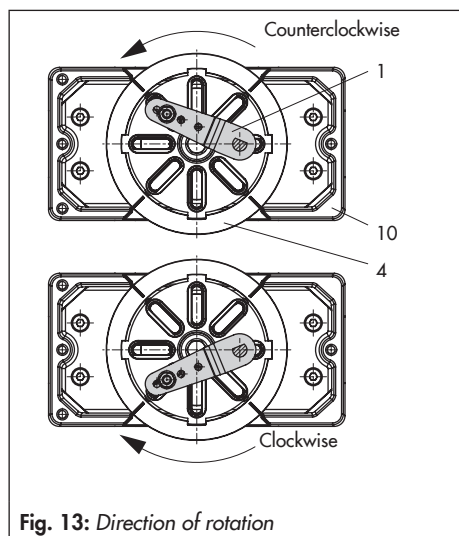

Fig. 13: Direction of rotation
1. Mount the housing (10) onto the rotary actuator. In case of VDI/VDE attachment,
- place spacers (11) underneath, if necessary.
- For **SAMSON Type 3278 and VETEC S160 Rotary Actuators**, screw the adapter (5) onto the free end of the shaft or place adapter (5.1) onto the shaft of the **VETEC R Actuator**. Place adapter (3) onto **Type 3278, VETEC S160 and VETEC R Actuators**. For **VDI/VDE version**, this step depends on the actuator size.
- Fasten coupling (4) on the slotted actuator shaft or adapter (3) using screw (4.1) and disk spring (4.2).
- Unscrew the standard follower pin (2) from the positioner's M lever (1). Attach the follower pin (\varnothing 5 mm) included in the mounting kit to pin position 90° .
- Mount connecting plate (6) for required G $\frac{1}{4}$ connecting thread or pressure gauge bracket (7) with pressure gauges on the positioner, making sure the two seals (6.1) are seated properly. Double-acting springless rotary actuators require the use of a reversing amplifier on the connection side of the positioner housing (refer to section 4.6).
- Place positioner on housing (10) and screw it tight. Taking the actuator's direction of rotation into account, adjust lever (1) so that it engages in the correct slot with its follower pin (Fig. 13).